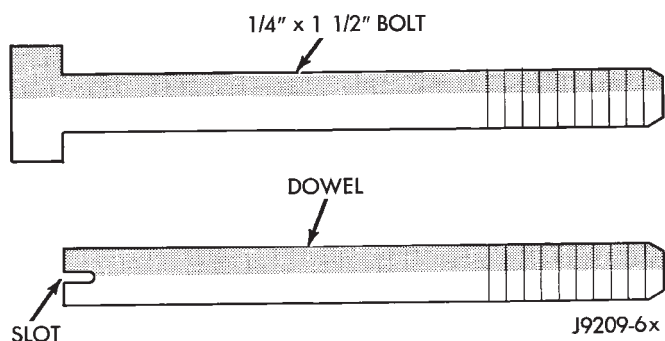

Fig. 58 Fabrication of Alignment Dowels
- (1) Clean the block and pan gasket surfaces.
- (2) Fabricate 4 alignment dowels from 1/4 x 1 1/2 inch bolts. Cut the head off the bolts and cut a slot into the top of the dowel. This will allow easier installation and removal with a screwdriver (Fig. 58).